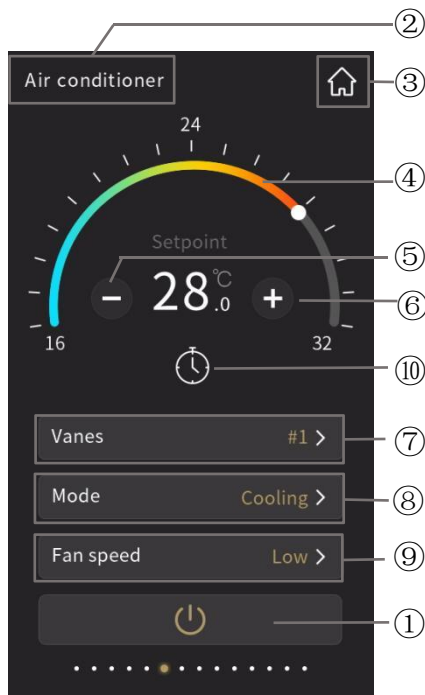
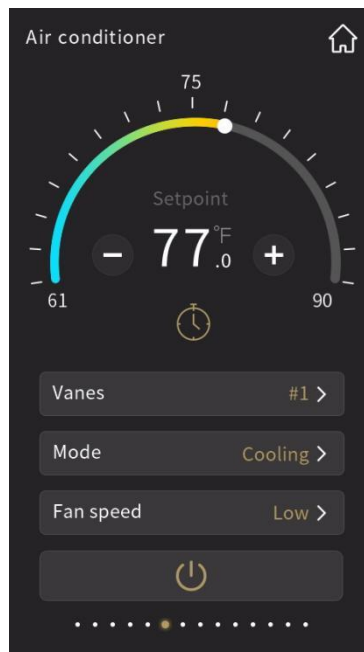
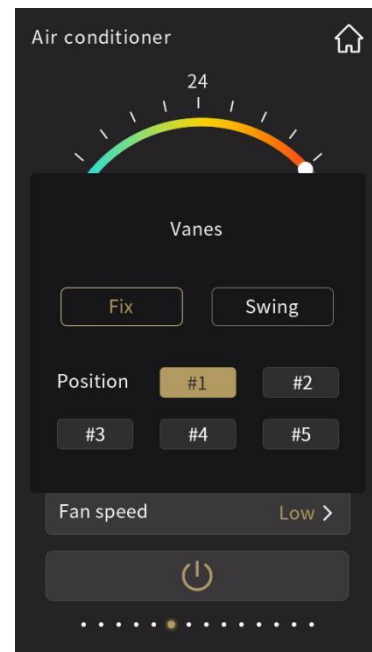

Fig.2.4.1
Fig.2.4.2
Fig.2.4.3
- ② **This area displays the page description identification of Air-Conditioner control, user can define the description through ETS;**
- ③ **Return to Home page by touching this icon;**
- ④ **Adjust the setting temperature by sliding this ring slider;**
- ⑤ **The function of this icon is to decrease the temperature;**
- ⑥ **The function of this icon is to increase the temperature;**
Adjusting the temperature by sliding the ring slider④ or touching the icon⑤ and icon⑥. For each touching of icon⑤ and icon⑥, the adjustment range is 1.0 degrees. When the setting temperature unit is set to degrees Celsius(°C), as shown in Fig.2.4.1, adjustment range of the setting temperature is 16~32°C by default; when the setting temperature unit is set to Fahrenheit(°F), the current temperature value will automatically convert to Fahrenheit value, as shown in Fig.2.4.2, adjustment range of the setting temperature is 61~90°F by default. The temperature adjustment range can be modified through parameter setting.
- ⑦ **Enter to the vanes setting by touching this tile, and will pop up a sub-window shown as Fig.2.4.3;**
Under fixed vanes position, select one of the 5 options (#1, #2, #3, #4, #5) for vanes position, for instance, select #1, interface as shown in Fig.2.4.3, then touch the area outside the sub-window to return the previous level function page, the position selected will be shown on the function page, as shown in Fig.2.4.1. For vanes swing, because vanes position change all the time, there would be no fixed position, only display character "Swing" on the interface.
Vanes swing function set to be disable or enable by parameter configuration. When disable, there will be no vanes fixed/swing item shown on the interface, as shown in Fig.2.4.1; when enable, vanes position can be adjusted.
**⑩ Turn on timer function by touching this icon;**
Icon⑩ on indicates timer turn on; icon⑩ off indicates timer turn off. Timer function can be enabled via the parameter configuration. When timer function is disabled, there would be no timer icon as shown as Fig.2.4.1 on the interface; when enabled, timer can be configured.